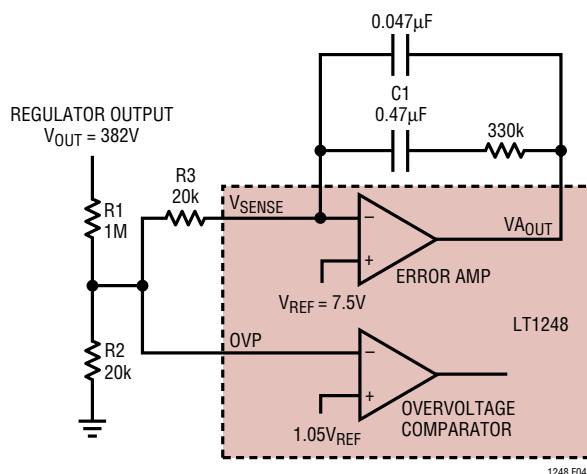

Figure 4
**Pin 8 (OVP):** This is the input to the overvoltage comparator. The threshold is 1.05 times the reference voltage. When the comparator trips, the multiplier is quickly inhibited and outputs no current. Figure 4 in the Applications Information section shows how to set overvoltage threshold with only one additional resistor.
Because of the slow loop response necessary for power factor correction, output overshoot can occur with sudden load removal or reduction. To protect the power components and output load, the LT1248 provides an overvoltage comparator which senses the output voltage and quickly shuts off the current switch. In Figure 4, because there is no DC current going through  $R_3$ ,  $R_1$  and  $R_2$  set the regulator output DC level:  $V_{OUT} = V_{REF}[(R_1 + R_2)/R_2]$ , with  $R_1 = 1M$ ,  $R_2 = 20k$ ,  $V_{OUT}$  is 382V.